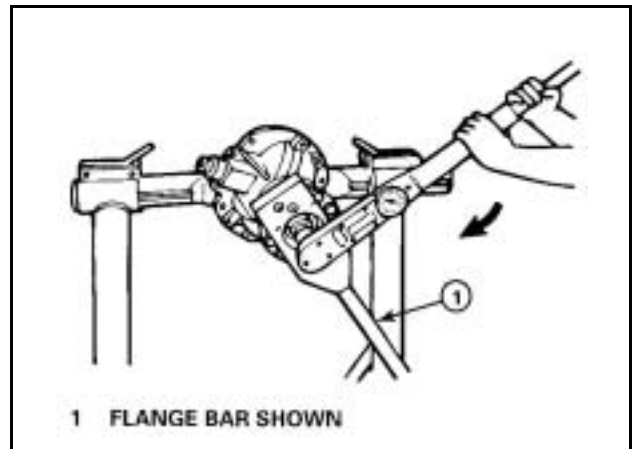

Figure 67
- Fasten a yoke or flange bar to the input yoke or flange. The bar will hold the drive pinion in position when the nut is tightened. **Figure 67.**
- Tighten the nut on drive pinion to the correct torque value. **Figure 67.** Refer to **Table B.**